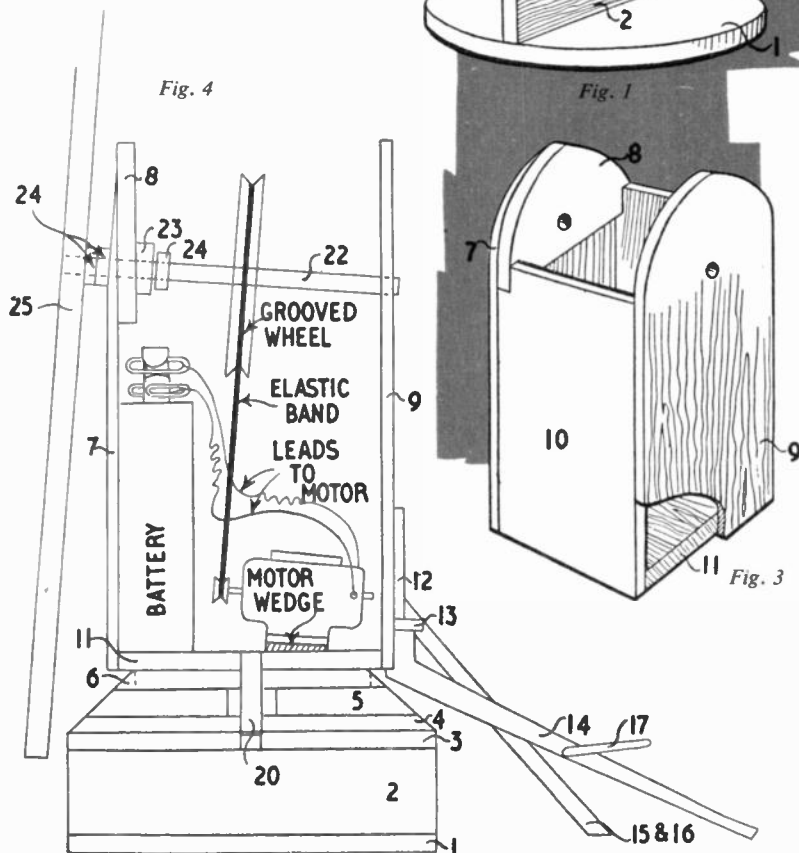

Fig. 4
Now carry on with making the upper portion of the mill, which consists of pieces 7, 8, 9, 10 and 11, glued together as shown in Fig. 3. It will be noticed from the design sheet that piece 7 has to be chamfered at the top as indicated by the section, and that the holes in pieces 7 and 9 must be drilled at an angle in order to give a tilt to the sails. This is made evident in Fig. 4, which shows the axle going through at an angle.
in position, it is inserted through the holes in pieces 7 and 9 (Fig. 4.). Note in particular that washer (23) is glued to piece 8 with washers 24 and 25 a loose fit and that the washer 24 behind piece 23 is a tight fit but not glued.
shown in Fig. 4. Provision must also be made for on/off switch connected to one of the leads from the battery to the motor. Connections to the battery terminals can be made by means of paper clips.